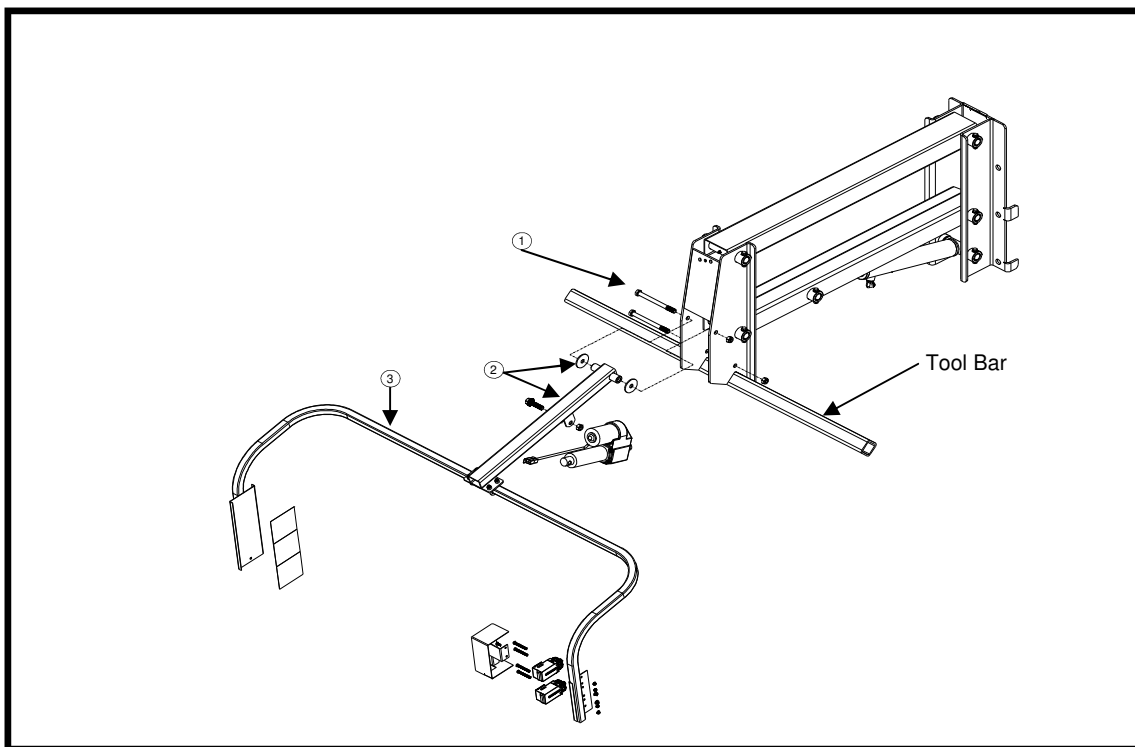

FIG 4.27
1. Install Tasselrol[®]/LS sensor mount support weldment with the two nylon washers (fig 4.27, item 2) in the forward-most hole of the tool bar (fig. 4.27, item 1).
2. Install the Tasselrol[®]/LS sensor mount weldment (fig. 4.27, item 3) to the sensor mount support arm.
Over tightening of the sensor arm pivot mounting bolt (fig. 4.27, item 1) may cause the actuator to stall.